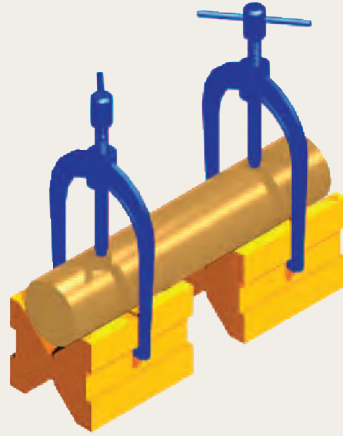
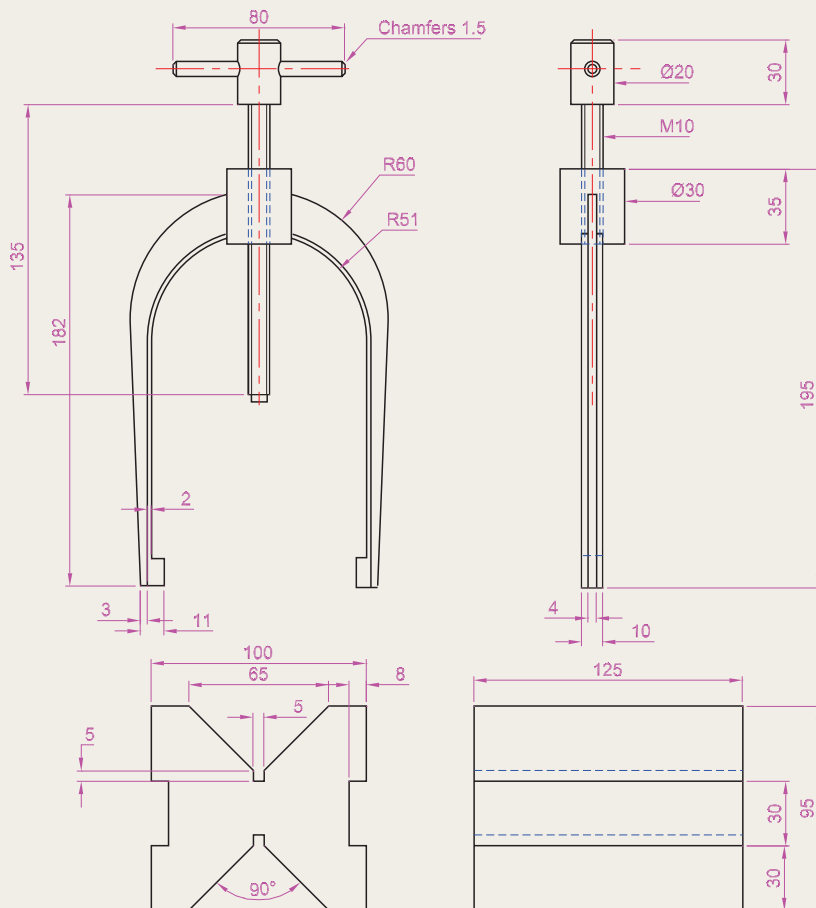

Fig. 19.15 Exercise 2
Fig. 19.16 Exercise 2 – orthographic projection
2. Figure 19.15 shows a rendering of the model for this exercise and Fig. 19.16 an orthographic projection giving shapes and sizes for the model. Construct the 3D model, add lighting, apply suitable materials and render.